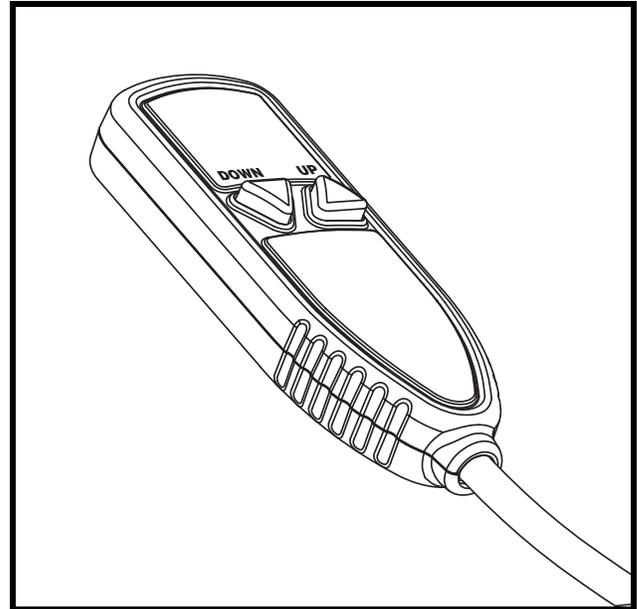

Figure 8. Hand Control
1. Press and hold the “DOWN” button. See figure 8. The lift will move out of the vehicle to its farthest forward stop, then lower to the ground. Once the platform has reached the ground, release the “DOWN” button.
- Press and hold the “UP” button. See figure 8. The lift will move up to its highest lift point, then slide into the SUV or van. Once the mobility device is stowed completely within the vehicle, release the button.